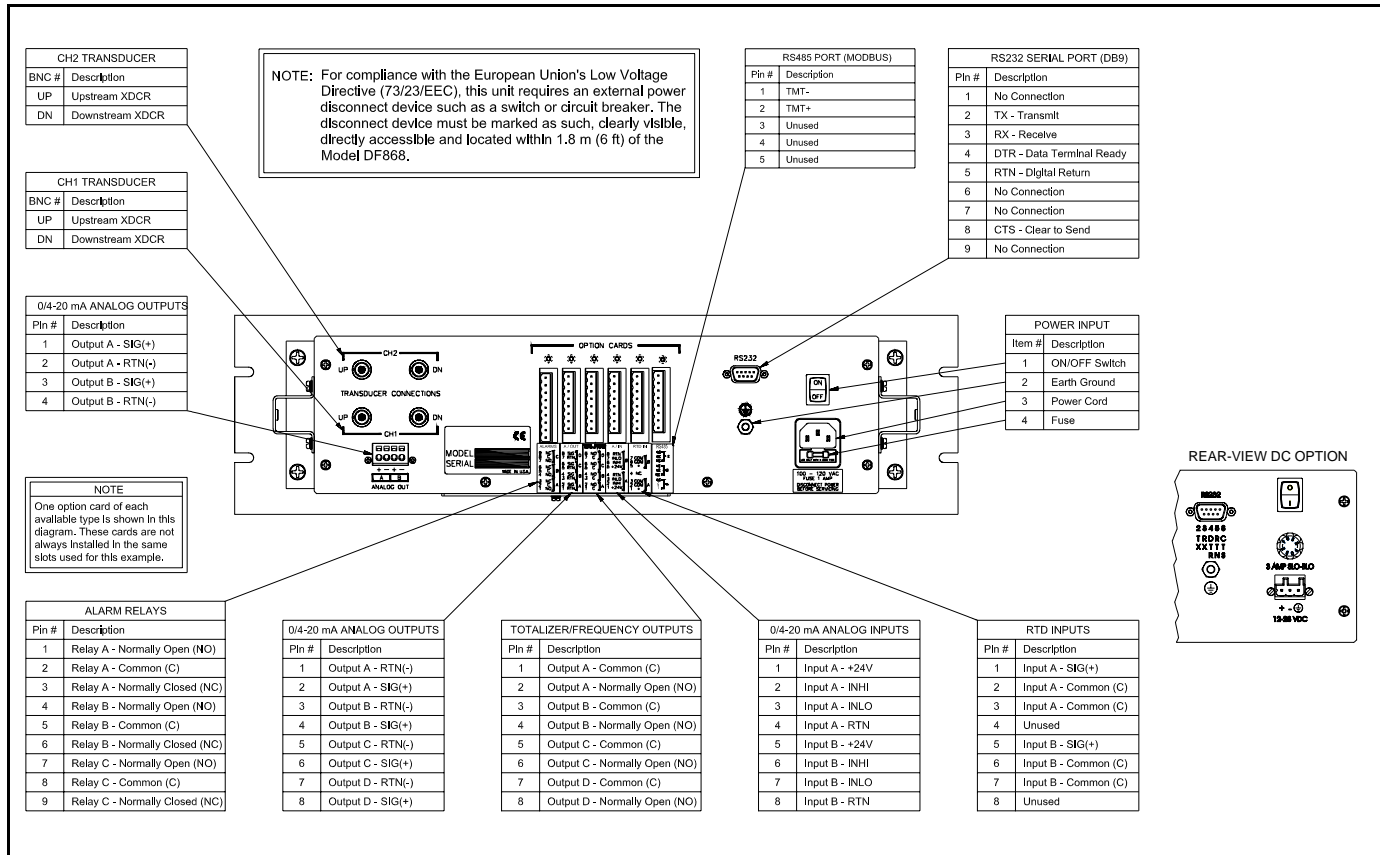

Figure C-2: Model DF868 Rack Mount Enclosure - Wiring Diagram
The rack mount Model DF868 requires exactly the same electrical connections as the standard version. However, the locations and type of connectors used for the various components are different. Refer to Figure C-2 on page C-4 and complete the following steps:
- a. Purchase or prepare a suitable serial cable. This cable should have a standard female DB9 connector, wired as shown in Figure C-2 on page C-4, for connection to the rear panel of the Model DF868. The other end should be as required for the external device.
5. Wire any installed *option cards* using the same procedures described in Chapter 1, *Installation*, of this manual and the pin # assignments shown in Figure C-2 on page C-4.